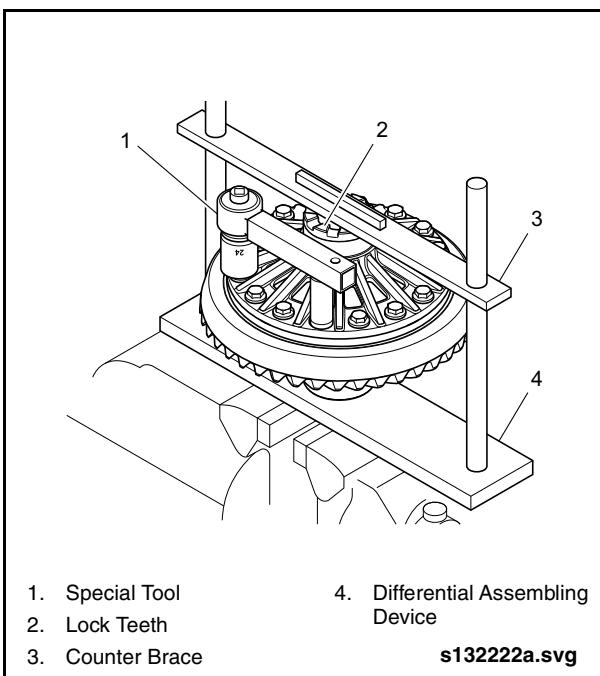

Fig. 2-58: Crown Gear Bolt Loosening
6. Install the special bolt removal/tightening tool on each of the crown gear mounting bolts and loosen each bolt. See “Fig. 2-58: Crown Gear Bolt Loosening” on page 53.